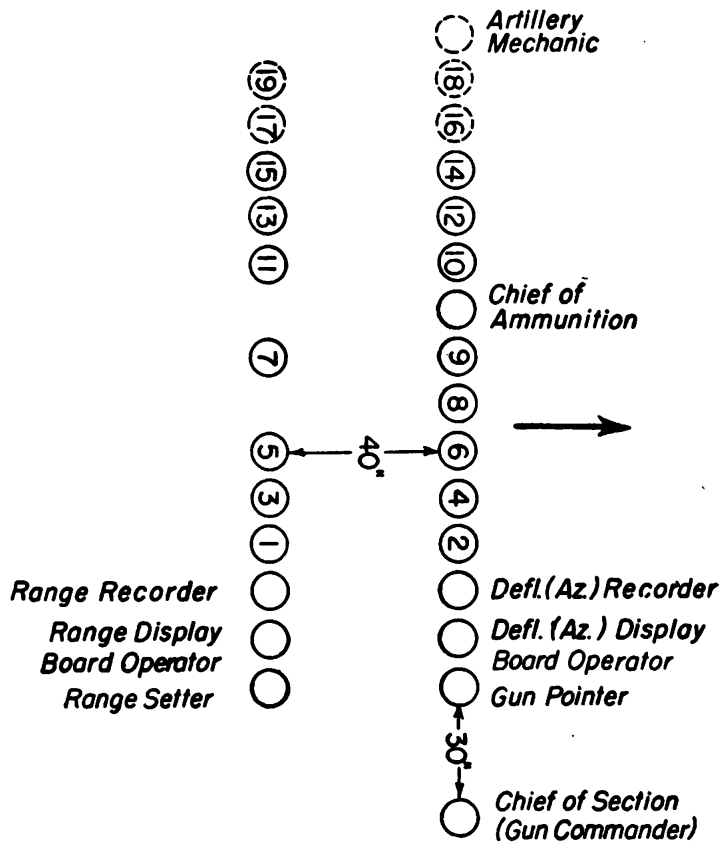

FIGURE 3.—Formation of gun section for 6-inch gun on barbette carriage.
9. Notes on drill.—Q. What is the formation for the 6-inch gun section (barbette carriage)? A. See figure 3.